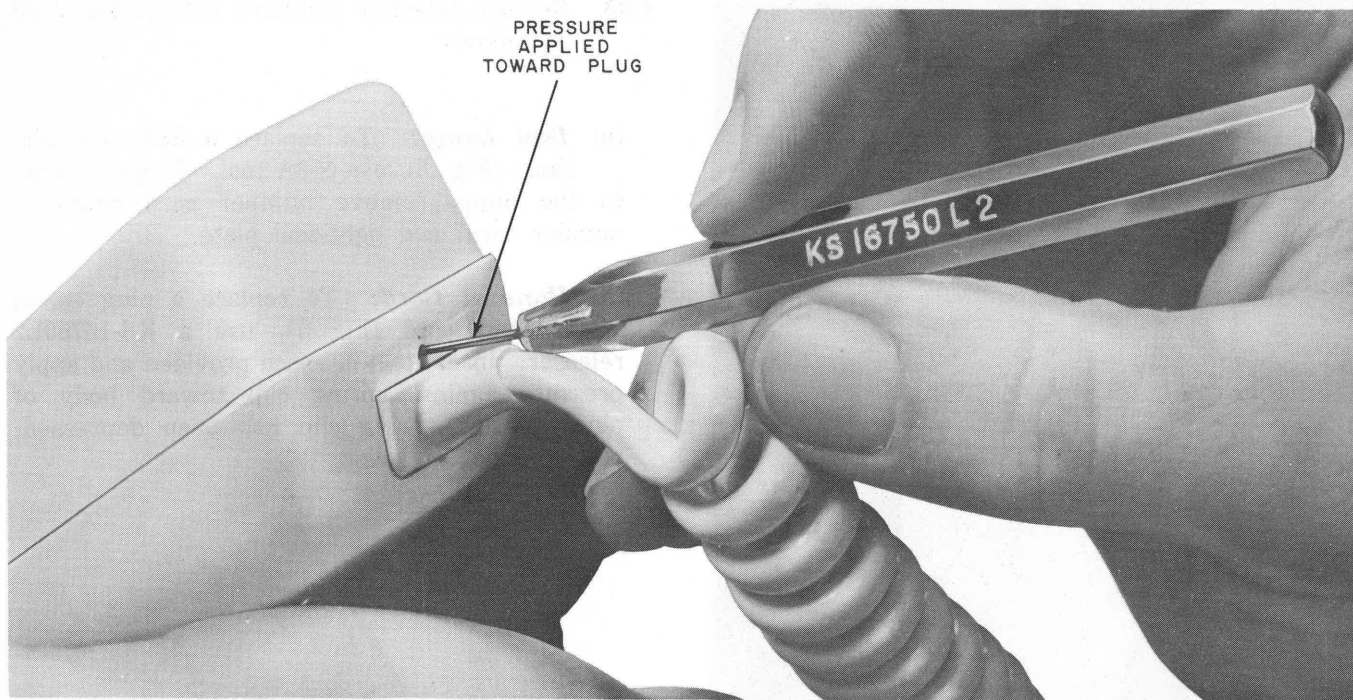

Fig. 7—Removing Cord From 220A Hand Telephone Set
- (b) **Handset Cord:** To replace a plug ended handset cord (Fig. 7), use a KS-16750L2 releaser. Insert tool in space provided and apply pressure against spring clip toward body of plug. When spring clip has been depressed, pull plug out of jack.